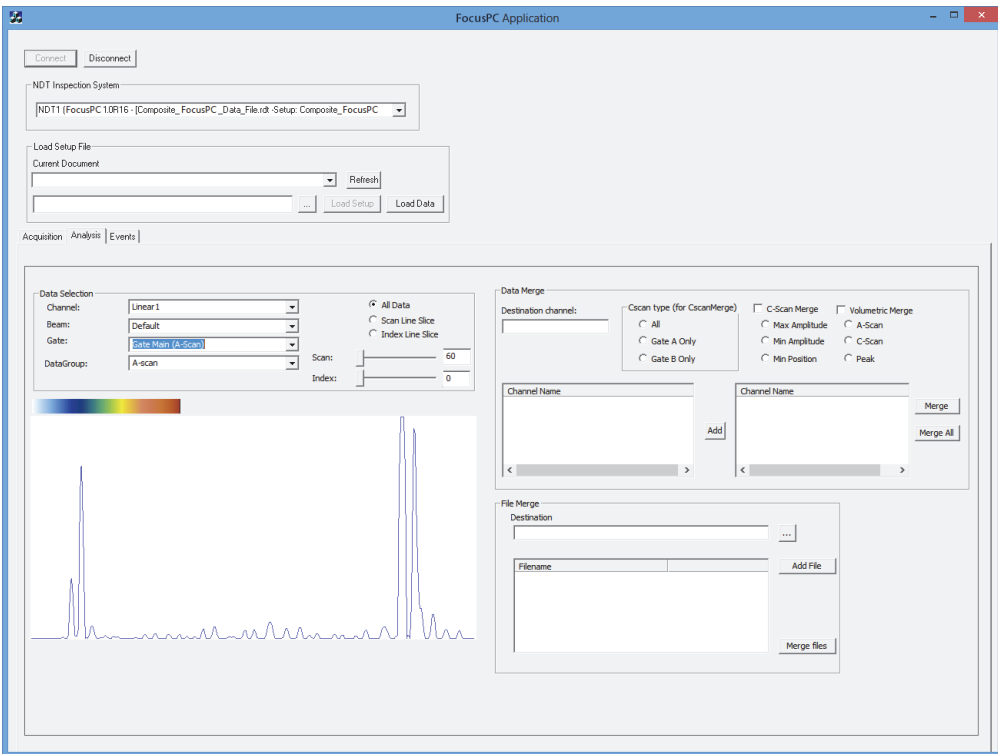

Figure 3-4 The FocusPC Application window
4. Click **Connect** in the **FocusPC Application** window (see Figure 3-4 on page 54). FocusPC opens and can now be controlled remotely using the sample program through FocusControl.